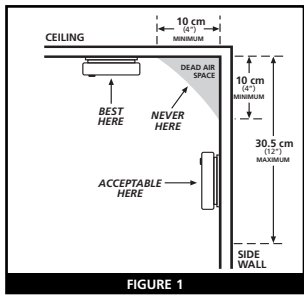

FIGURE 1
- When mounting an alarm on the ceiling, locate it at a minimum of 10 cm (4") from the side wall. (see Figure 1).
- When mounting the alarm on the wall, use an inside wall with the top edge of the alarm at a minimum of 10 cm (4") and a maximum of 30.5 cm (10") below the ceiling. (see Figure 1).
- In homes that are not well insulated, extreme heat or cold can be transferred from the outside to the inside through poorly insulated walls and roof. This may create a thermal barrier which can prevent the smoke from reaching an alarm mounted on the ceiling. If you are not sure about the insulation in your home, or if you notice that the outer walls and ceiling are either hot or cold, install the alarm on an inside wall. In such homes, install the smoke alarm with the top edge of the alarm at a minimum of 4" (10 cm) and a maximum of 12" (30.5 cm) below the ceiling (see figure 1).